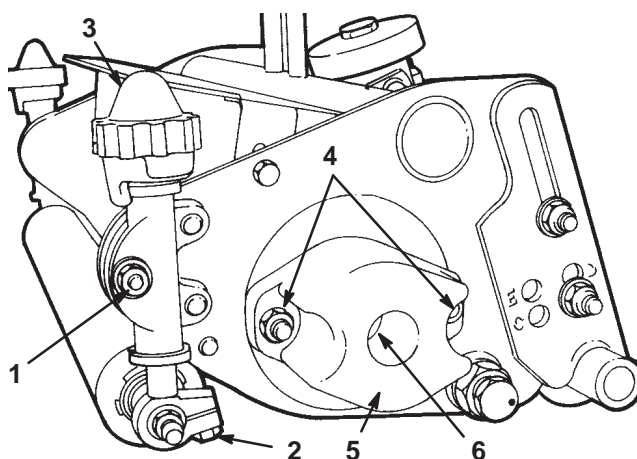

Figure 17
- Loosen the locknuts securing the height-of-cut adjusting rods at both ends of the cutting unit and the roller shaft clamp bolts (Fig. 17).
- Turn the height-of-cut adjustment knobs until they are disconnected from the height-of-cut adjusting rods (Fig. 17). The knobs are captivated on the upper washer face of the height-of-cut clamp.
2. The reel bearing drag should be from 5 to 9 in.-lb. (1 N·m) (Fig. 17). This can be measured with a torque wrench.
- A. Remove the mounting nuts from the counterbalance end cap and remove the end cap from the mounting studs (Fig. 17).
- C. With the wrench mounted, hold the reel and tighten the large reel bearing adjustment nut (Fig. 17). Tighten it until the drag on the reel meets the 5 to 9 in.-lb. (1 N·m) specification.
1. Remove the counterbalance end cap (Fig. 17).
2. Remove the large bearing adjustment nut from one end of the reel shaft (Fig. 17) and the special spline nut at the opposite end of the reel shaft.